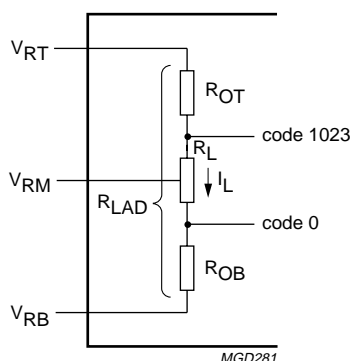

Fig.3 Explanation of note 3.
3. In order to ensure the optimum linearity performance of such converter architecture the lower and upper extremities of the converter reference resistor ladder (corresponding to output codes 0 and 1023 respectively) are connected to pins  $V_{RB}$  and  $V_{RT}$  via offset resistors  $R_{OB}$  and  $R_{OT}$  as shown in Fig.3.